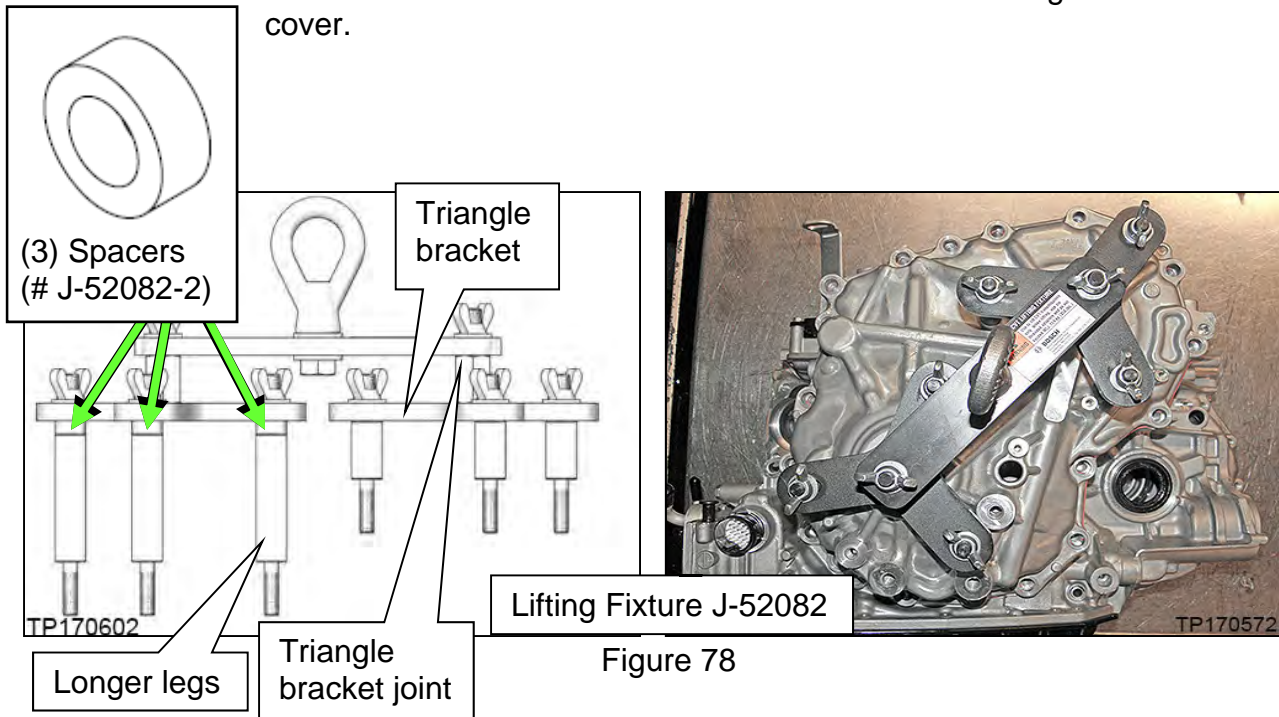

Figure 78
54. Attach universal Lifting Fixture J-52082 with spacers J-52082-2 to the side cover as shown in Figure 78.
- Confirm that three (3) spacers (# J-52082-2) are present between the longer legs and triangle bracket as shown in Figure 78.